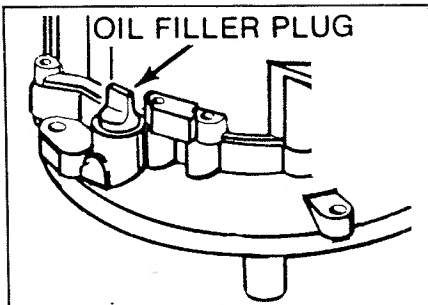

FIG. 5
2. Remove oil fill plug (figure 5) and fill crankcase (pour slowly) with approximately 1 pint of oil to top of oil fill hole. **NOTE:** Use a high quality detergent oil classified "For service SC, SD, SE, or SF", such as SAE 10W-30 (SAE 30 is an acceptable substitute). **DO NOT USE 10W40 OIL.** Crankcase capacity is approximately 21 ounces (1¼ pints). Crankcase oil should be changed after first two (2) hours of operation and every twenty-five (25) hours thereafter.